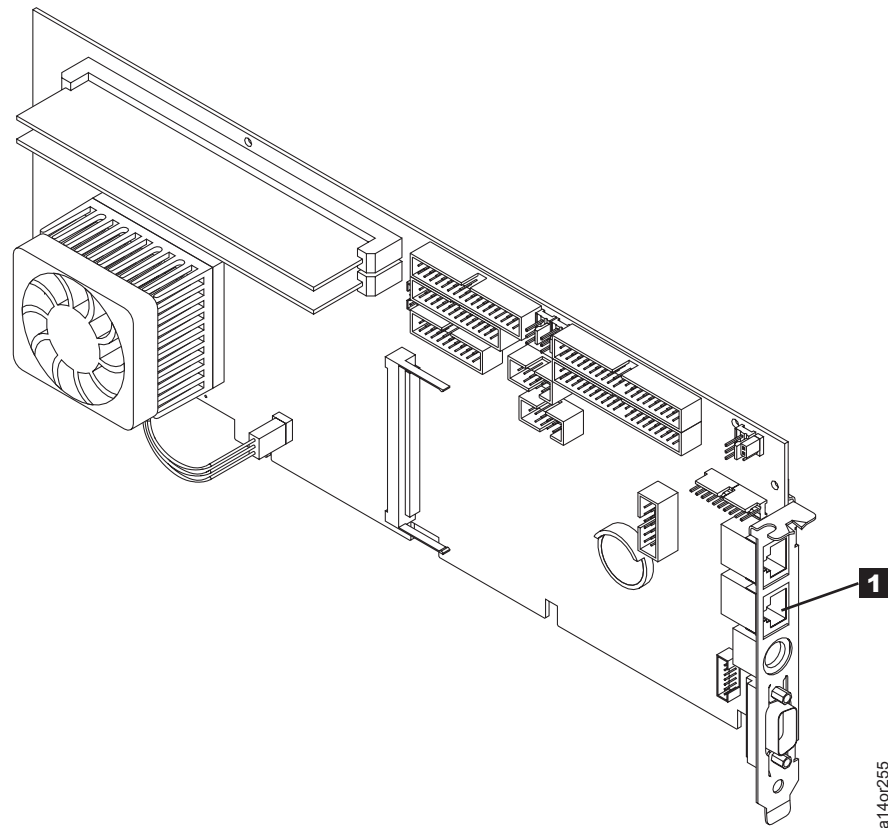

Figure 2-39. Plug Ethernet Cable Here (3494). Notice Item 1.
1. See Figure 2-39 on page 2-27. Ensure that an ethernet connection has been completed between the 3494 ATL or 3953 SBC card port 1 (lower port) and a port on one of the System Console ethernet switches. The ethernet cable should plug into the bottom port (Item 1 in Figure 2-39 on page 2-27). The SBC card is in slot 3 of the 7581.